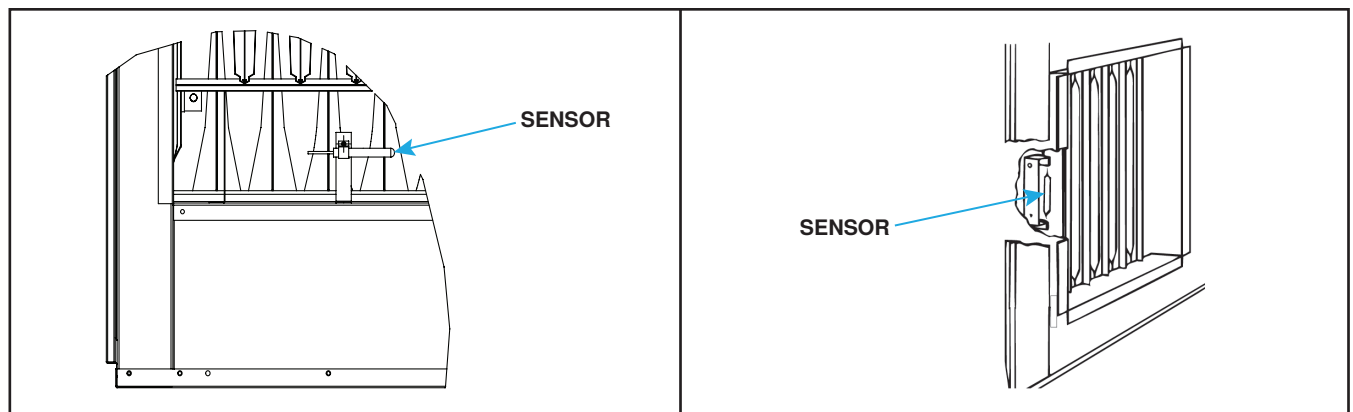

Figure 9. Shipping Locations of Capillary Sensor
Depending on the gas control option, the discharge air temperature sensor is either factory- or field-installed. Field-installed sensors have one of two configurations: a sensor and mixing tube assembly or a sensor holder and junction box assembly. For units with the sensor holder and junction box assembly option, the sensor is normally installed on a bracket in the furnace discharge for shipping but it may be mounted in the cabinet leg (see Figure 9).
- (1) Before connecting ductwork to furnace, remove capillary sensor from its shipping position on furnace (see Figure 9).